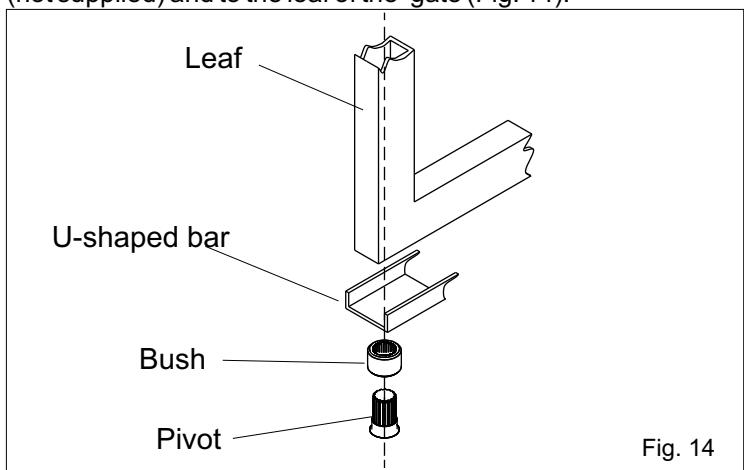

Fig. 14
4.2. Go back about 5° and weld the bush to the U-shaped bar (not supplied) and to the leaf of the gate (Fig. 14).